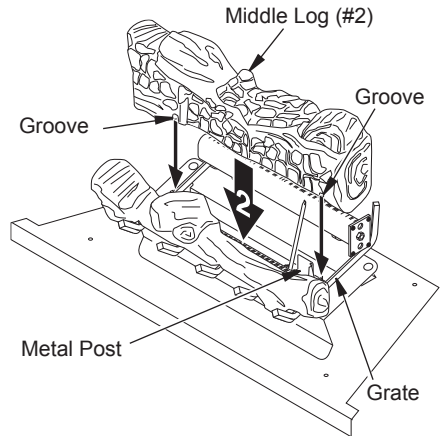

Figure 25 - Installing Middle Log (#2)
2. Rest middle log (#2) behind metal posts on grate assembly. Make sure the grooves in the bottom of the log fit over the grate. Bring the log forward next to the metal posts (see Figure 25).